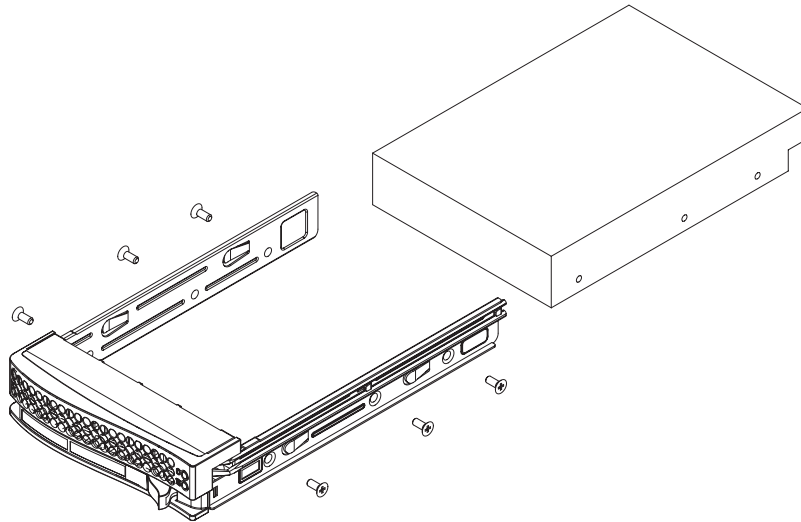

Figure 6-3 Mounting a Drive in a Carrier
3. Secure the drive to the carrier with four screws, as shown in Figure 6-3 on page 51.